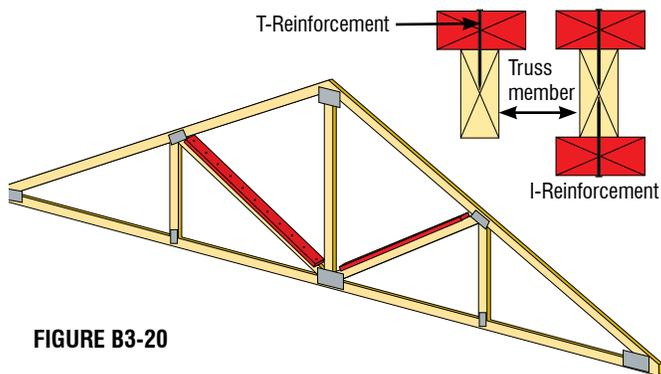

FIGURE B3-20
- ✓ I- and U-Reinforcement are similar to T- and L-Reinforcement, respectively, except that two (2) pieces of lumber are added, one to each narrow face of the Web. Refer to Figure B3-20 and B3-21, respectively, for examples of I- and U-Reinforcement..